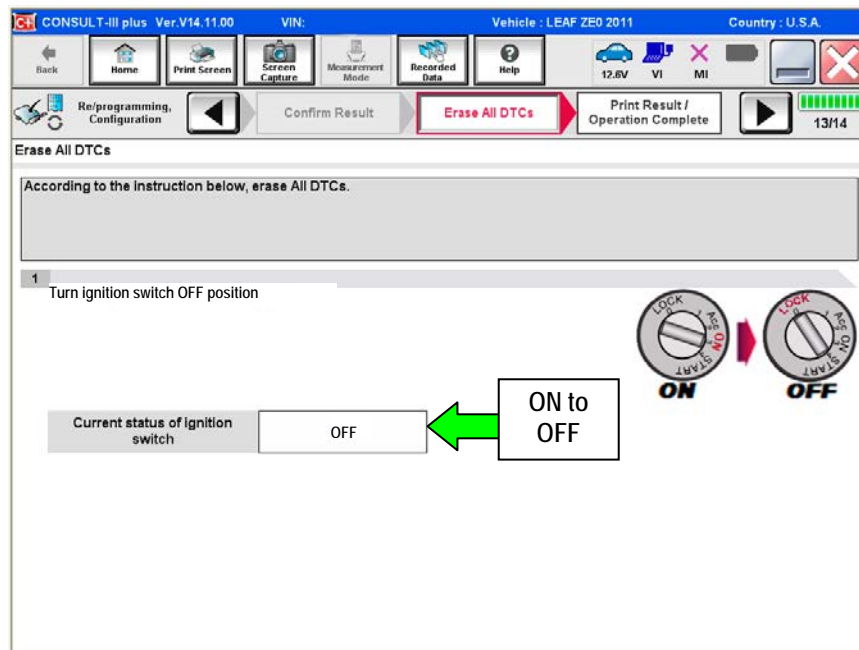

Figure 19
- The screen in Figure 19 will read OFF after pressing the power/ignition switch once.
- The screen in Figure 19 will read **ON** after pressing the power/ignition switch twice.